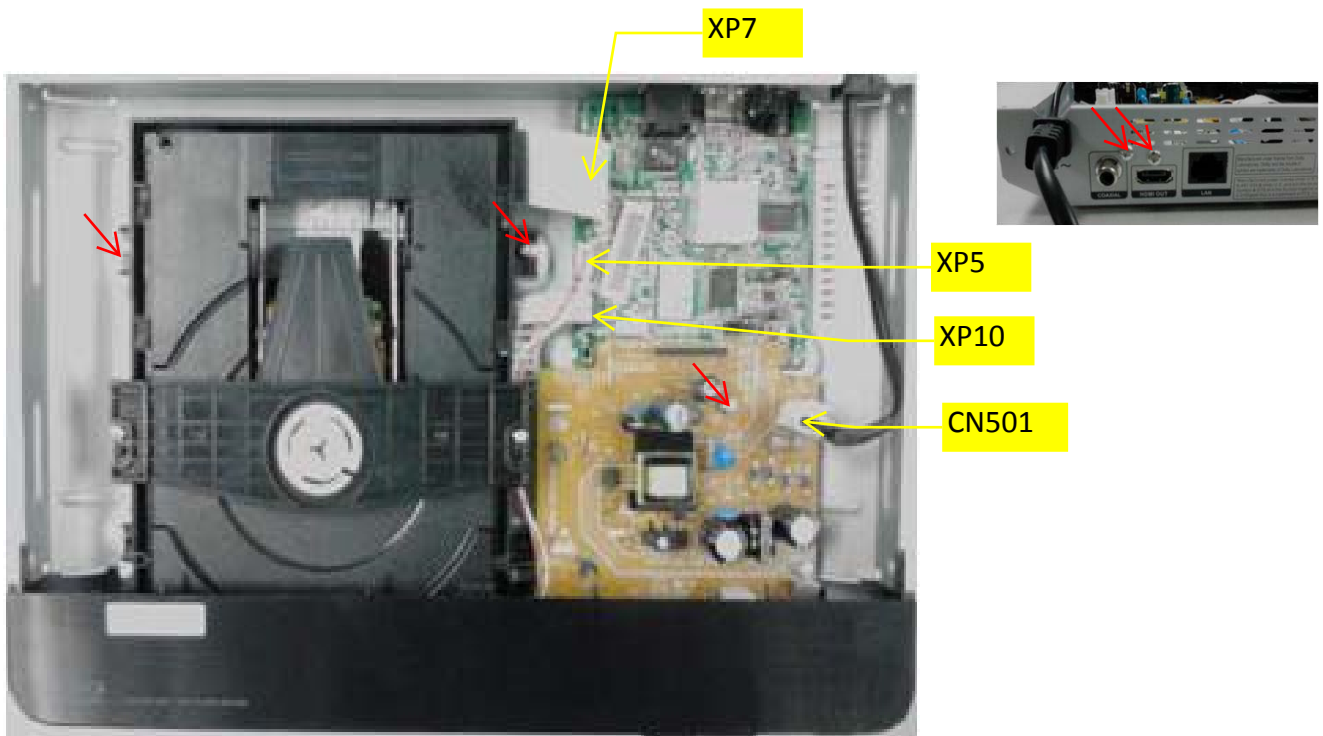

Figure 3
**Step3:** Dismantle the power board and main board.Disconnect connectors(XP7,XP5,XP10),remove 1 screw on power board and 2 screws on the back panel.(Figure 3)
**Step4:** Dismantle the loader.Remove 2 screws beside the loader,then pull up the loader.(Figure 3)